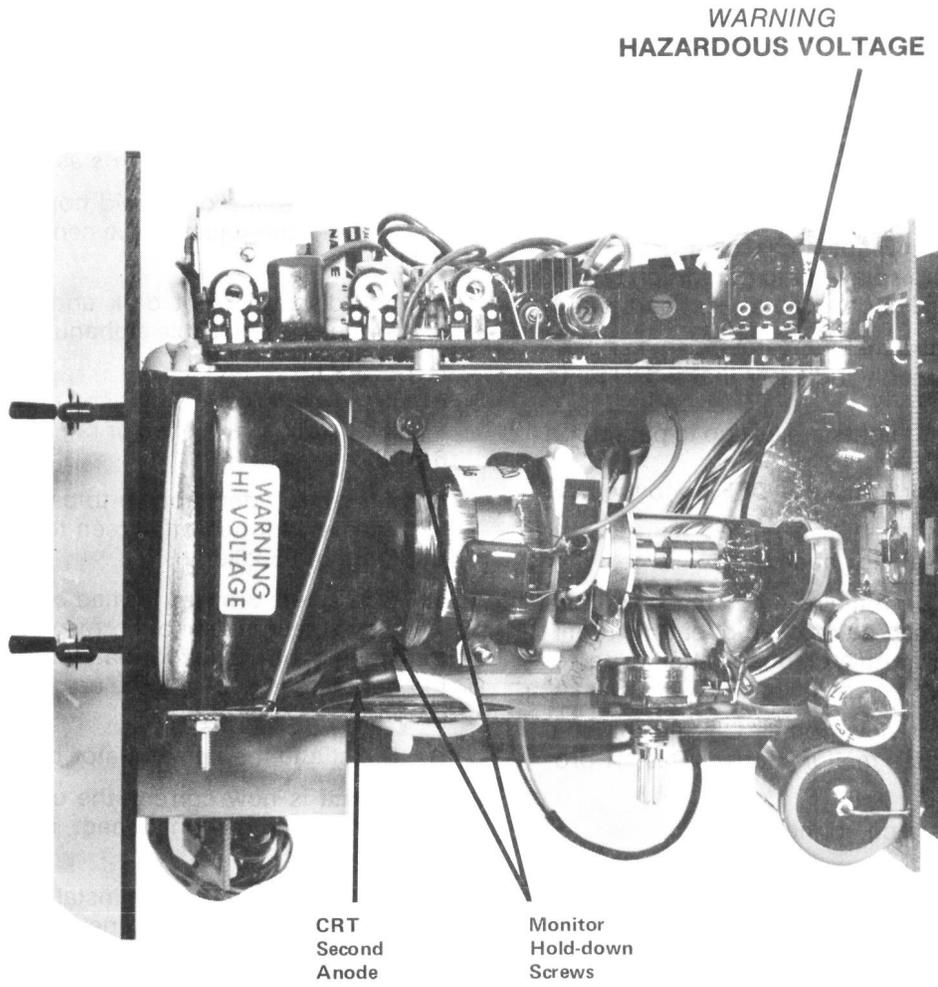

Figure 27, Top View of Chassis
CAUTION: Hazardous voltages may be present at or near the second anode of the cathode ray tube. (See Figure 27)
- g) Loosen the two display assembly hold-down screws (#4-40) on each side of the CRT. (See Figure 27)